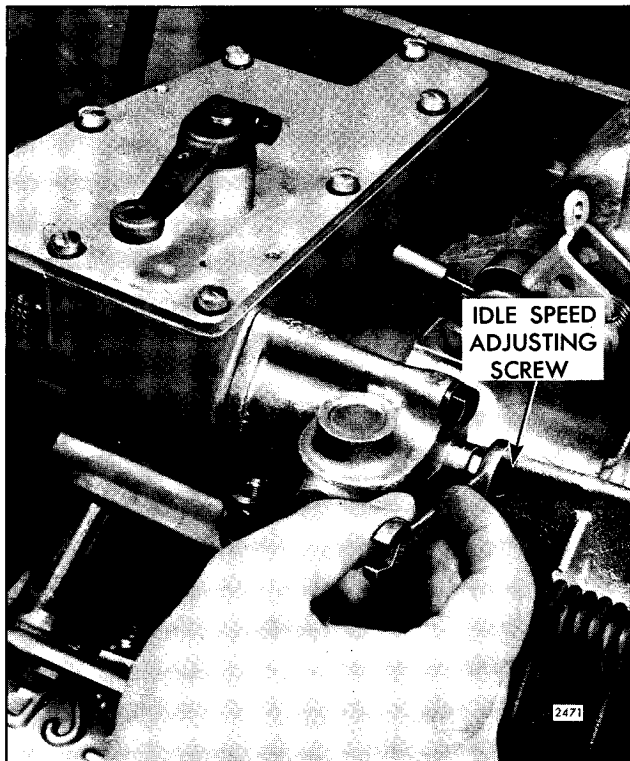

Fig. 3 - Adjusting Idle Speed
2. With the engine operating, loosen the lock nut. Turn the idle speed adjusting screw, Fig. 3, until the engine idles at the recommended idle speed.